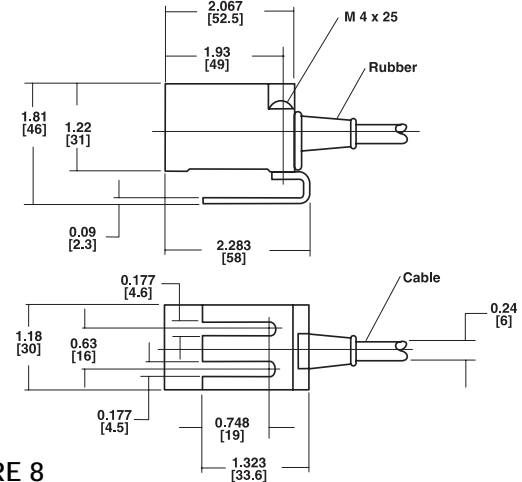

FIGURE 8
3. Mount PG2 to a non-rotating member using the mounting bracket provided (See Figure 8).